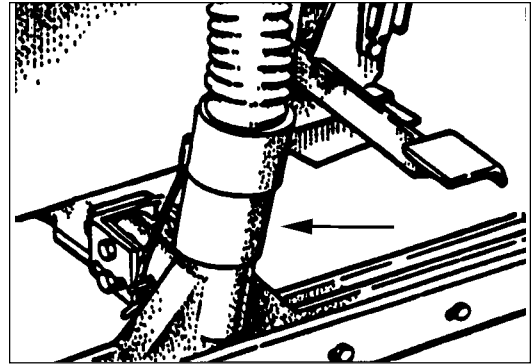

Figure 28
10. Make sure the vacuum hose is installed and on the squeegee. See figure 28 on page 17.